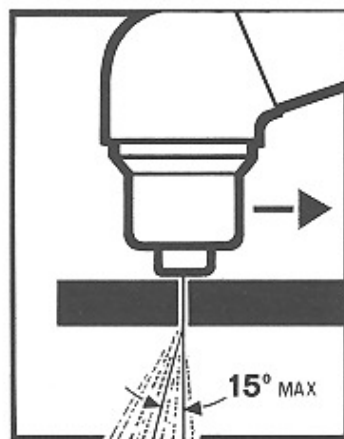

Fig. 7
- high speed. Always ensure that arc fully goes through the workpiece to be cut and that its inclination is never higher than $10 \div 15^\circ$ (see fig. 7).